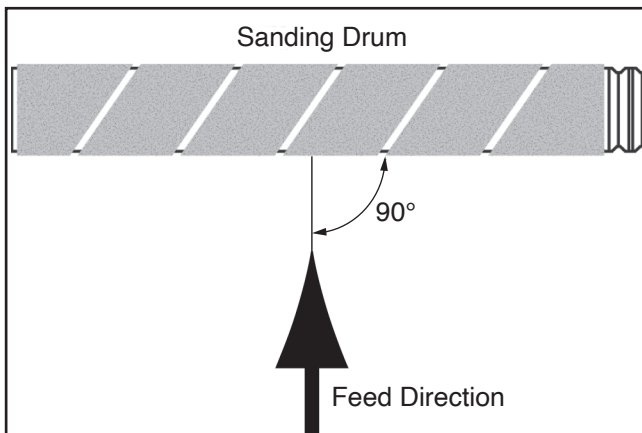
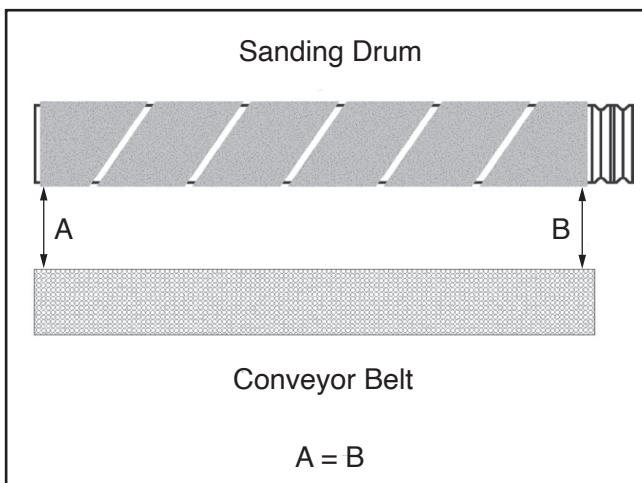

Figure 43. Feed direction perpendicular to sanding drum (viewed from top of machine).
Figure 44. Sanding drum parallel to conveyor belt (viewed from front of machine).
For the Model G1066R/G1066Z/G1079R Drum Sander to function properly, the sanding drums must be aligned in two directions: (1) perpendicular to feed direction (see **Figure 43**) and (2) parallel to the conveyor belt (see **Figure 44**).